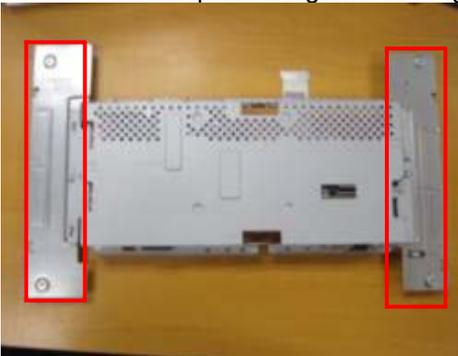

Fig.13
b. Remove the top shielding cover as Fig.13